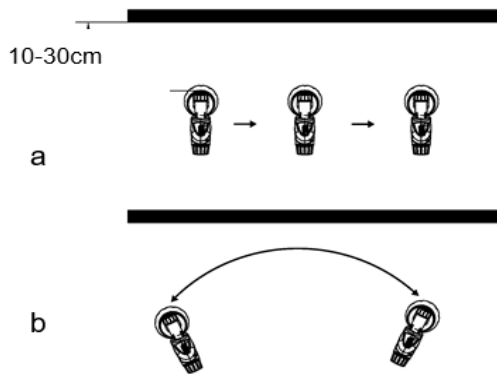

Fig. 6
- Correct (Fig. 6 a) Be sure to hold the spray gun at an even distance of approx. 10- 30 cm to the target object.
- Incorrect (Fig. 6 b) · Heavy spray fog build-up, uneven surface quality.